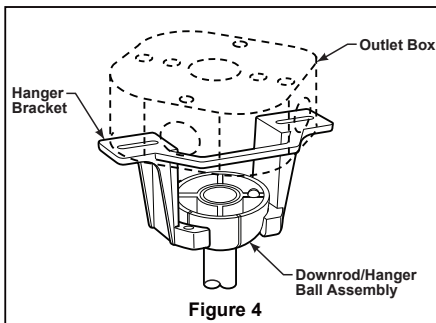

Figure 4
4. Thread downrod into the downrod support on top of the motor. Install the clevis pin by aligning the holes in the downrod support with holes in the downrod. Secure clevis pin with hairpin clip. Tighten the two set screws with nuts in the downrod support. (Figure 4)
2. Carefully lift the fan and seat the downrod/hanger ball assembly onto the hanger bracket that was just attached to the outlet box. Be sure the groove in the ball is lined up with tab on the hanger bracket. (Figure 4)
3. Connect green wires from hanger bracket and downrod to bare (ground) wire using wire connector. Connect black wire from receiver unit marked “AC IN L” to black supply wire using wire connector. Connect white wire from receiver unit marked “AC IN N” to white supply wire using wire connector. Connect white wire from receiver unit marked “TO MOTOR N” to white wire from fan using wire connector supplied with receiver unit. Connect black wire from receiver unit marked “TO MOTOR L” to black wire from fan using wire connector supplied with receiver unit. Lastly, connect blue wire from receiver unit to the blue fan light wire using wire connector supplied with receiver unit. Securely enclose the red supply wire with wire connector. (Figure 4)
- 4.** To set the remote code same positions as the receiver with a small screwdriver or ball point pen (neither included), slide dip switches firmly up or down. (Figure 4)